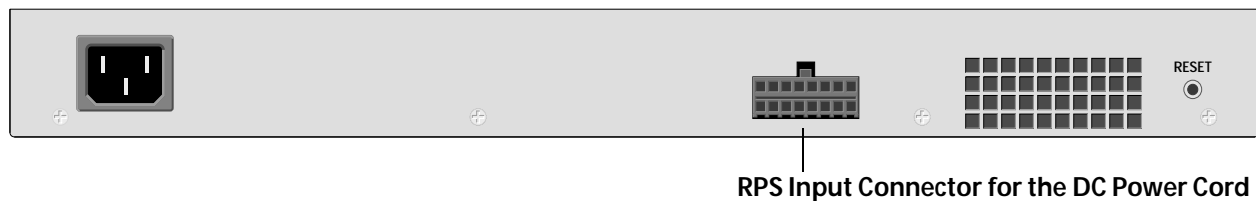

Figure 33 Back Panel of the Ethernet Switch
8. Connect the other end of the DC power cord to the RPS Input connector on the back panel of the Ethernet switch. Refer to Figure 33 for the RPS Input connector.